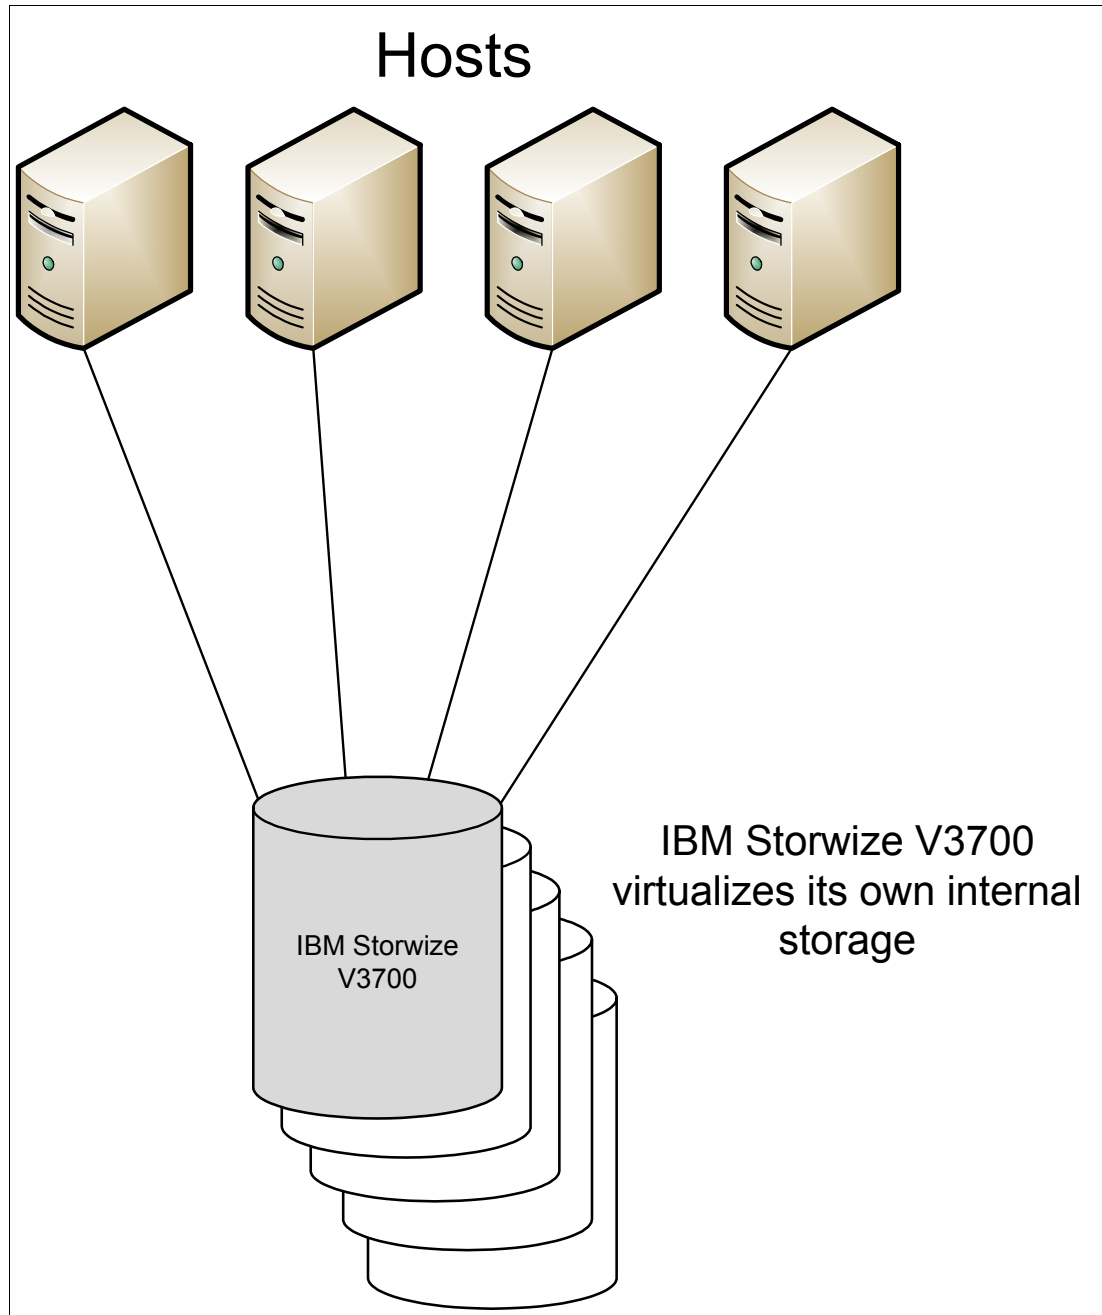

Figure 1-2 Storwize V3700 direct attached
**Note:** A big benefit of the Storwize V3700 is that you can direct attach it to a host as shown in Figure 1-2. For any restrictions refer to the IBM System Storage® Interoperation Center (SSIC) <http://www-03.ibm.com/systems/support/storage/ssic/interoperability.wss> or to the following restrictions website : <http://www-01.ibm.com/support/docview.wss?uid=ssg1S1004233>